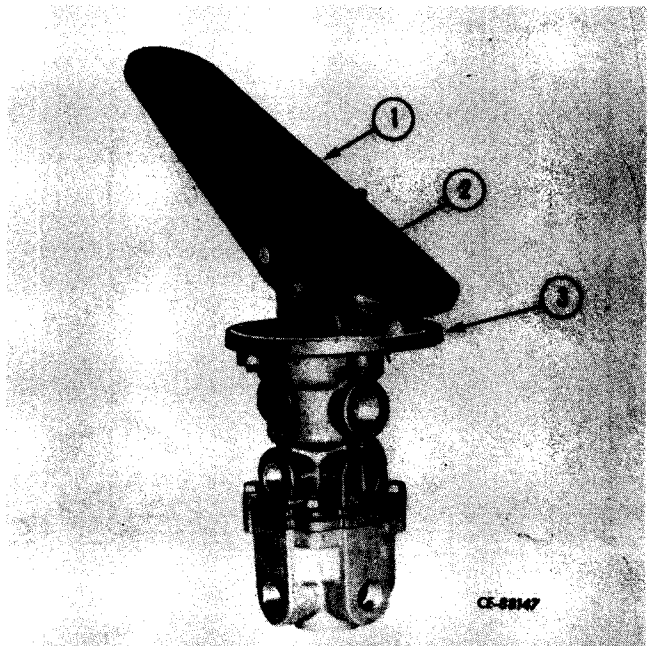

Figure 13-12
Remove cotter pin from fulcrum pin (2, Fig. 13-12). Drive out fulcrum pin securing treadle (1) to mounting plate (3). Remove treadle assembly.
Place treadle assembly (1, Fig. 13-12) on mounting plate (3) and insert fulcrum pin (2). Align holes in treadle and fulcrum pin and insert cotter pin.